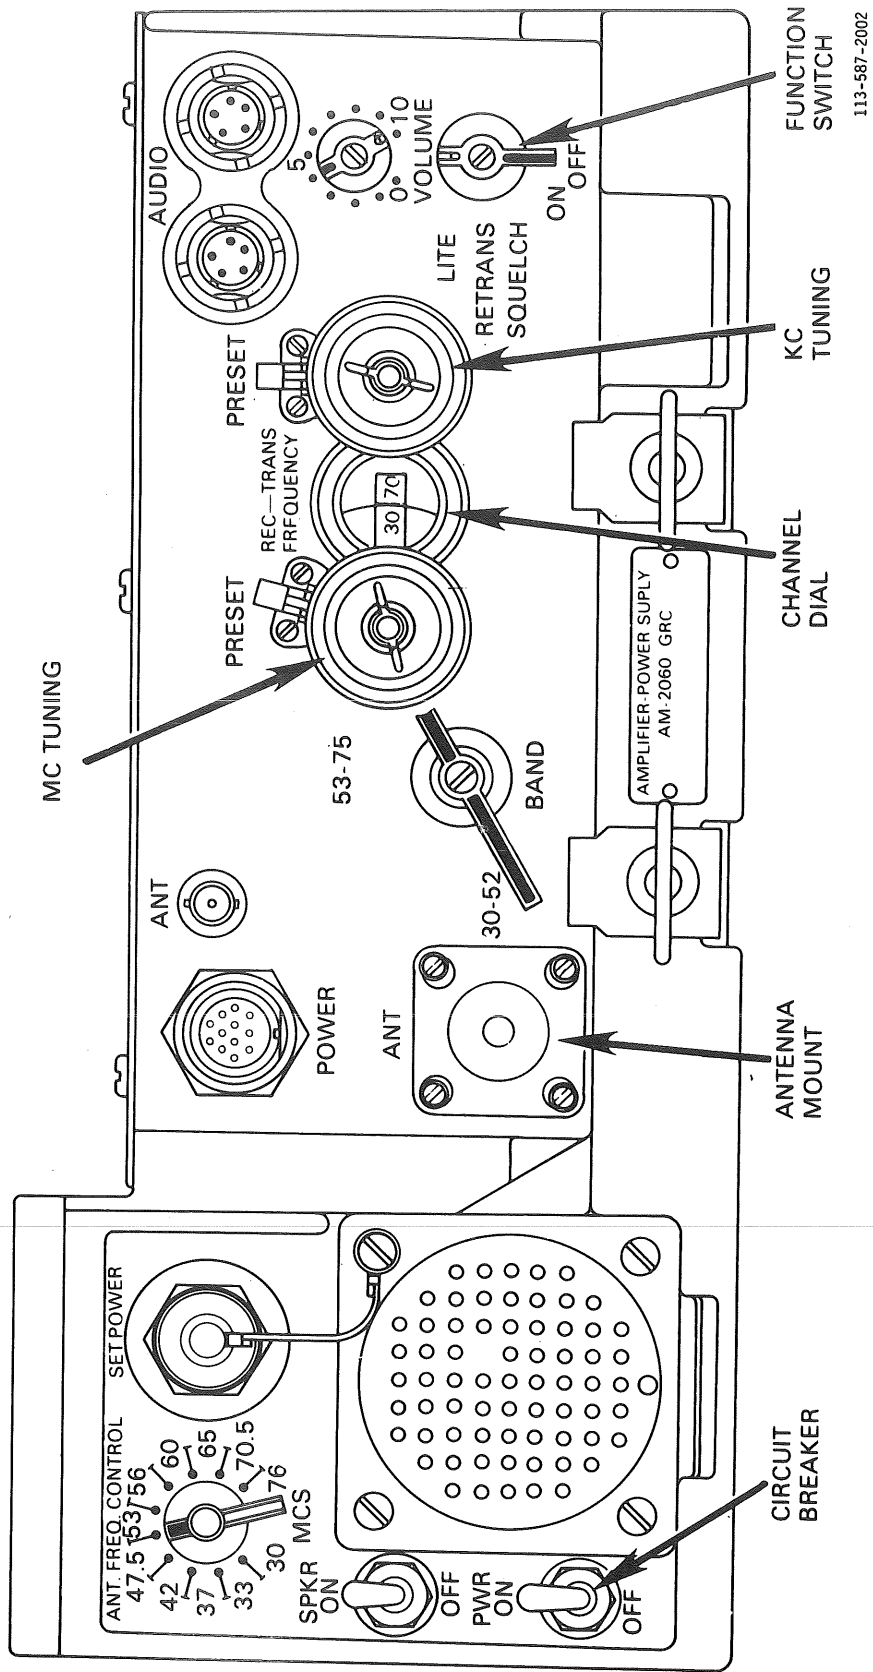

Figure 1. Amplifier-Power Supply and Receiver-Transmitter, Controls, Indicators, and Connectors.
- b. Set FUNCTION switch to ON. (Refer to fig 1.)
- c. Set BAND switch at 30-52 or 53-75, depending on frequency being used. (Refer to fig 1.)
- d. Utilize preset or turn the MC tuning and KC tuning controls so that the desired frequency shows in the frequency window. (Refer to fig 1.)
- a. Turn amplifier-power supply PWR switch to ON. (Refer to fig 1.)
6. Perform stopping procedures. Refer to TM 11-5820-498-12, chap 3, sec II, para 3-14k(1) and (2), pp 3-12, 3-13.)